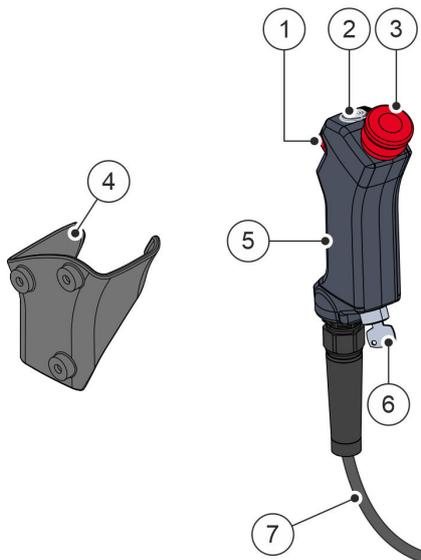

Fig. 7 Handheld controller overview
The operating elements shown in Fig. 7 can be found on the handheld controller.
The enabling button Fig. 7/① must be pressed for each robot movement.
The operating mode of the robot is set using the mode selector switch **Fig. 7/⑥**. Only authorised operating personnel are allowed to set the operating mode, and they are also responsible for the key (☞ *Chapter 3.9 'Personnel requirements' on page 67*).
The robot can be switched on and off with the on/off button **Fig. 7/②**. The on/off button has an LED ring that lights up green when the robot is switched on.
Pressing the emergency stop button **Fig. 7/③** triggers an emergency stop, which immediately stops all robot movements (☞ *page 73*). The robot's brakes are applied and the robot can no longer be moved manually by pressing the manual guidance button. To restart the robot, the emergency stop button must be unlocked and the robot must be reset on the user interface (☞ *page 132*).
The handheld controller can be suspended from the bracket **Fig. 7/④** close to the robot at a suitable working height. The bracket must be mounted so that when the handheld controller is suspended from it, it is out of the robot's range.